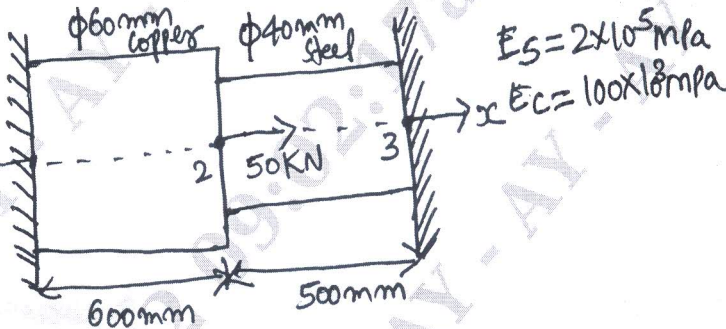

Fig Q3(b)
b. A compound bar is subjected to a load of 50kN as shown in Fig Q3(b). Determine the following :